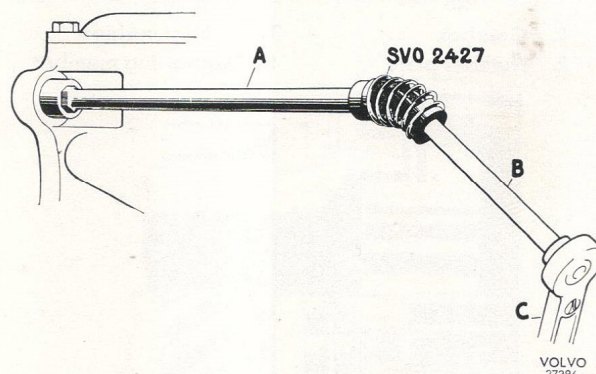

Fig. 21. Removing the gearbox bolts, vehicles with B 18 engine
Slacken the gearbox retaining bolts with an 8 mm or $\frac{3}{8}$ " socket spanner depending on which size is fitted. For the upper bolts use SVO 2487 ($\frac{3}{8}$ " hexagon) or SVO 2488 (8 mm hexagon), swivelling joint SVO 2427, extension piece with $\frac{3}{8}$ " square end and ratchet handle, see Fig. 21. Pull out the gearbox to the rear.
6. Slacken the right upper and left lower gearbox bolts with spanner SVO 2487, swivelling joint SVO 2427, extension piece with 3/8" square end and ratchet handle, see Fig. 21. Fit the two guide pins SVO 2743, see Fig. 40. Slacken the other two bolts. Pull out the gearbox backwards and lower it.